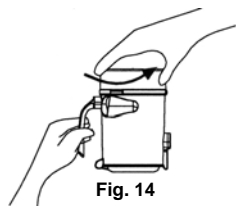

Fig. 14
1. To remove the filter assembly from the dust cup, hold the dust cup from the handle in one hand and with the other hand, turn counter clockwise and pull out the filter cover. (Fig. 14)